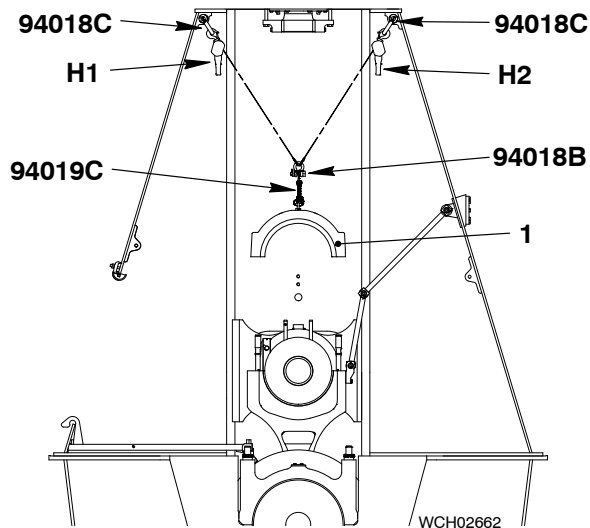

Fig. 3
- 5) Attach the two shackles (94018C, Fig. 3) to the attachment points on the frame.